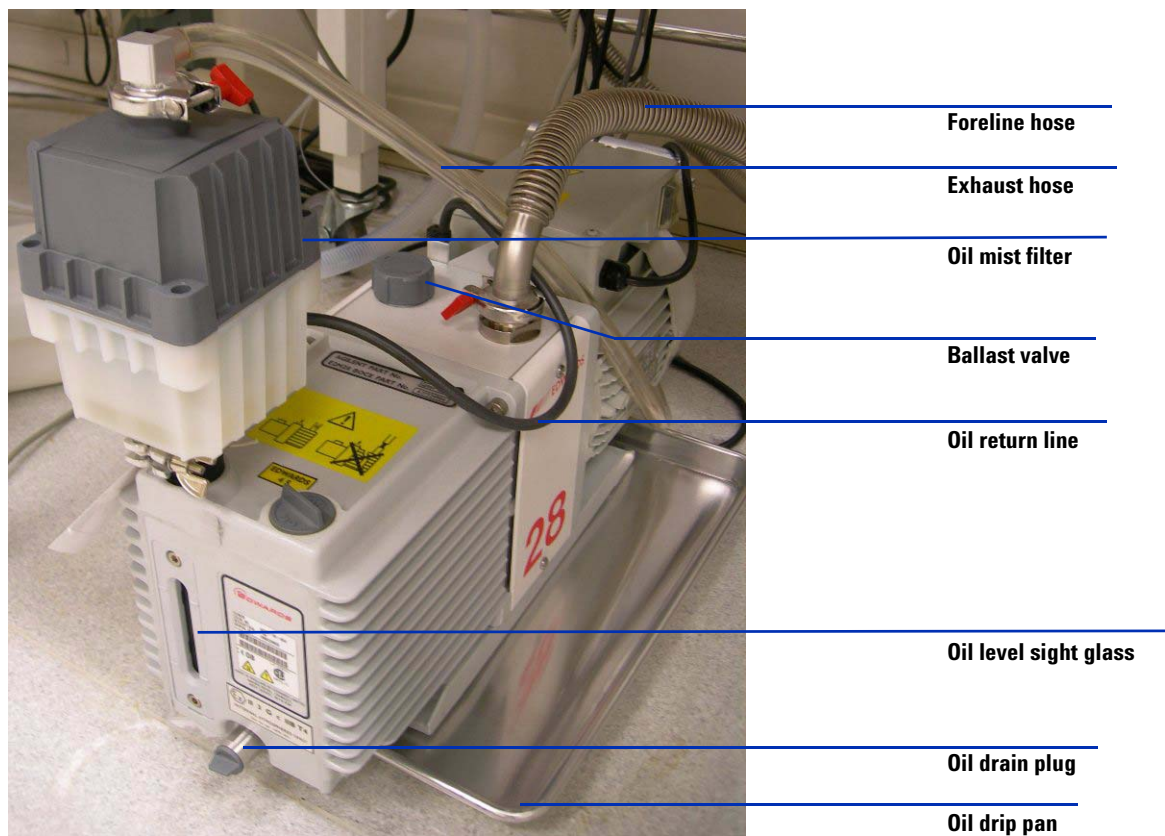

Figure 77 Rough pump.
- 3 Remove the fill cap on the rough pump (see Figure 77).
- 4 Add new pump fluid until the fluid level is near, but not over the maximum mark beside the fluid level window (see Figure 77).
- 3 Place a container under the drain plug of the rough pump (see Figure 77 on page 143).
- 4 Remove first the fill cap (see Figure 77 on page 143), then open the drain plug.
- 6 Pour in new pump fluid until the fluid level is near, but not above the maximum mark beside the fluid level window (see Figure 77 on page 143).